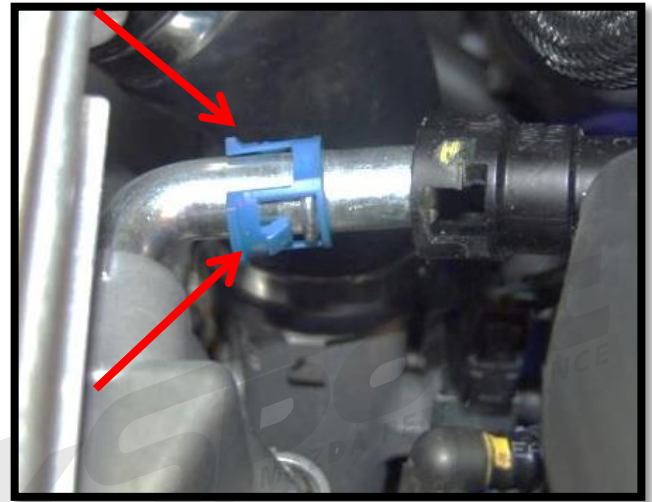

Figure 1d
e) **Remove the valve cover breather tube.** Push the hose connector toward the valve cover and press both sides of the colored clip simultaneously. Pull the hose away from the valve cover (Figure 1d).